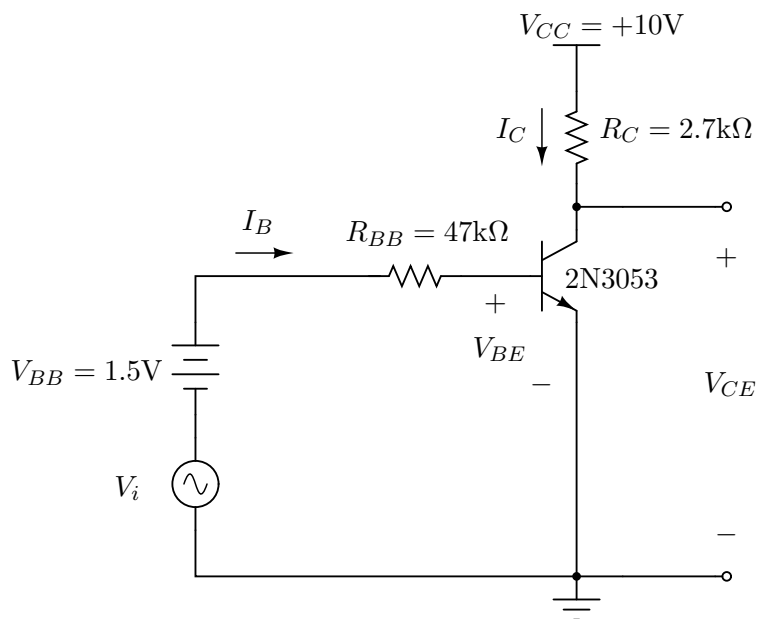

Figure 3: Simple amplifier.
2. *Transistor as a linear amplifier* – Connect the circuit shown in Figure 3. Set the peak amplitude of the function generator to 0.25V and the frequency to 1000 Hz. Observe $i_B(t)$, $v_B(t)$, $v_E(t)$ and $v_C(t)$ on the scope and record them. Both input switches of the scopes should be set to DC. Indicate clearly the DC level and the peak-to-peak variation (swing) of the ac component of each signal on your sketch. If you observe any distortion in the $v_C(t)$ waveform, reduce the amplitude of v_i until there is no distortion. Note that if we assume linear operation with no distortion, each signal will consist of both a dc and an ac component,
Answer the questions and draw the graphs requested in the procedures above. Is there any voltage gain in the circuit of figure 3?